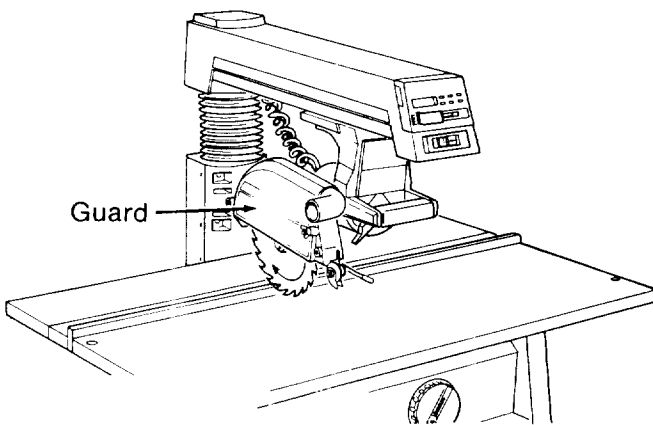

Fig. 90
2. Place the *guard* over the *blade*. You will feel the *guard* fall into place when the ridge on the inside of the *guard* slides into the slot on the *motor*. (Figure 90)